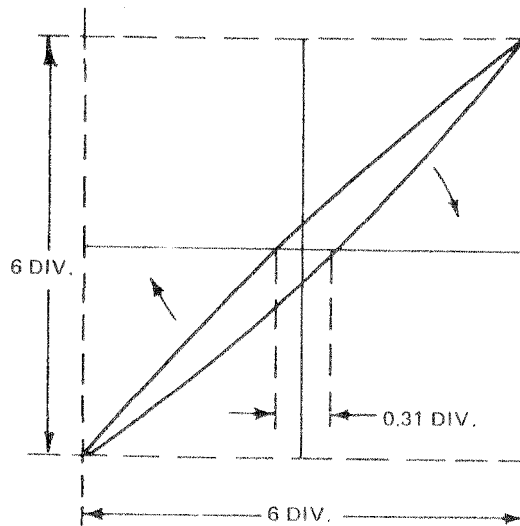

Figure 3-8. X-Y Phase Measurement
- d. Check that phase angle on CRT display is equal or less than 0.42 division, as shown in Figure 3-8.